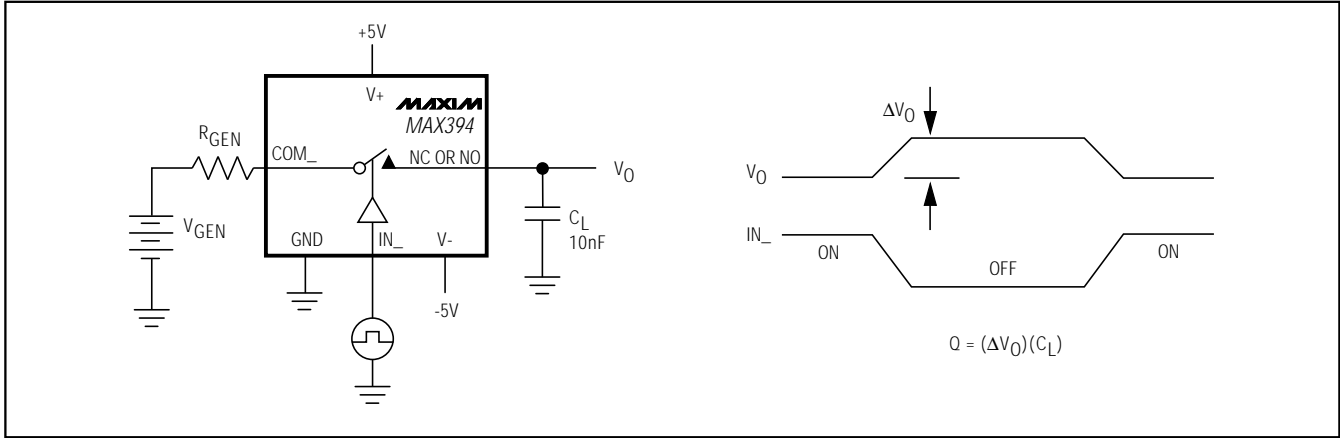

Figure 6. Charge Injection
**Note 6:** See Figure 6. Off isolation =  $20\log_{10} V_{COM}/V_{NC}$  or  $V_{NO}$ .  $V_{COM}$  = output,  $V_{NC}$  or  $V_{NO}$  = input to off switch.